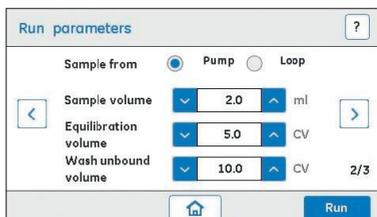

Fig 11. ÄKTA start display: Screenshot of **Run parameters** screen (2/3).
- Tap the forward arrow to go to screen (2/3) (Fig 11).